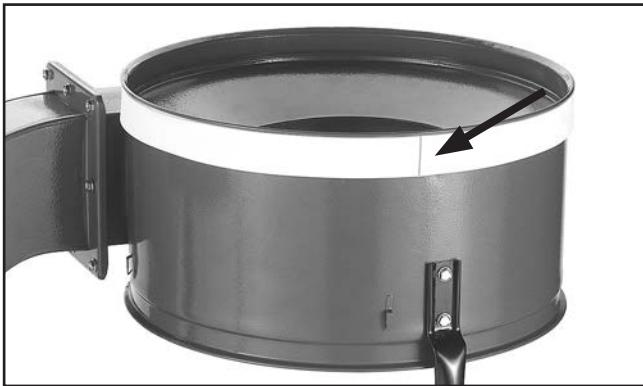

Figure 20. Trimmed foam strip.
11. Trim the excess foam strip so the ends come together evenly, as shown in **Figure 20**.